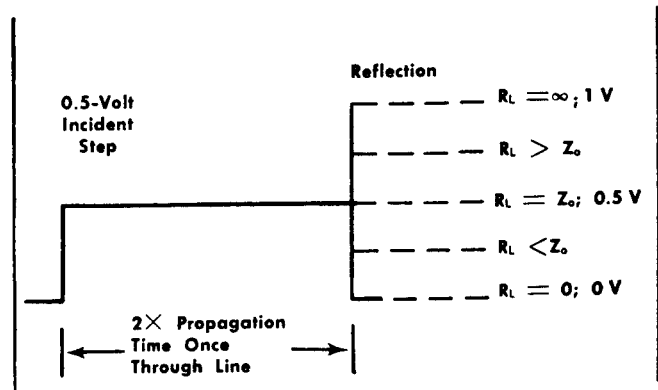

Fig. 2-25. TDR oscilloscope voltmeter displays for circuit of Fig. 2-24, dependent upon value of R_L vs Z_o .
Fig. 2-25 shows TDR oscilloscope (voltmeter) displays related to the value of R_L vs the value of the transmission line Z_o . For values of R_L not equal to Z_o , use formula (3) to compute the reflection voltage. The final display voltage is the re-
A more convenient method of handling signal reflections is to consider the reflection as having been added to or subtracted from the incident pulse. This permits establishing a ratio between the incident and reflected signals which is called the reflected coefficient, rho (ρ). The value of ρ is simply the reflected pulse amplitude (the display total amplitude minus the incident pulse amplitude) is divided by the incident pulse amplitude. Fig. 2-25 shows the two parts of the display, the incident step and the reflected signal. When $\rho = 0$, the transmission line is terminated in a resistance equal to its characteristic impedance Z_o . If the line is terminated in $R_L > Z_o$, then ρ is positive. If the line is terminated in $R_L < Z_o$, the ρ is negative. The dependence of ρ on the transmission line load is